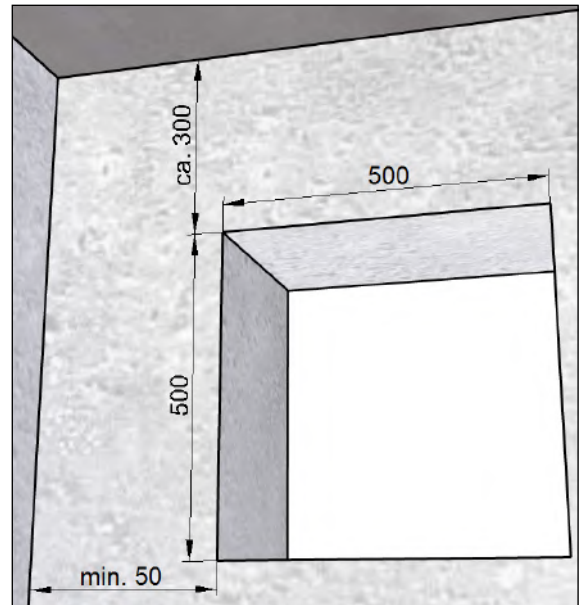

Fig. 11: Wall breakthrough for installation kit **with** filler piece, dimensions in millimetres
- Complete wall breakthrough (see Fig. 11 auf page 17) for installation kit **with** filler piece M-WRG-M/Fü